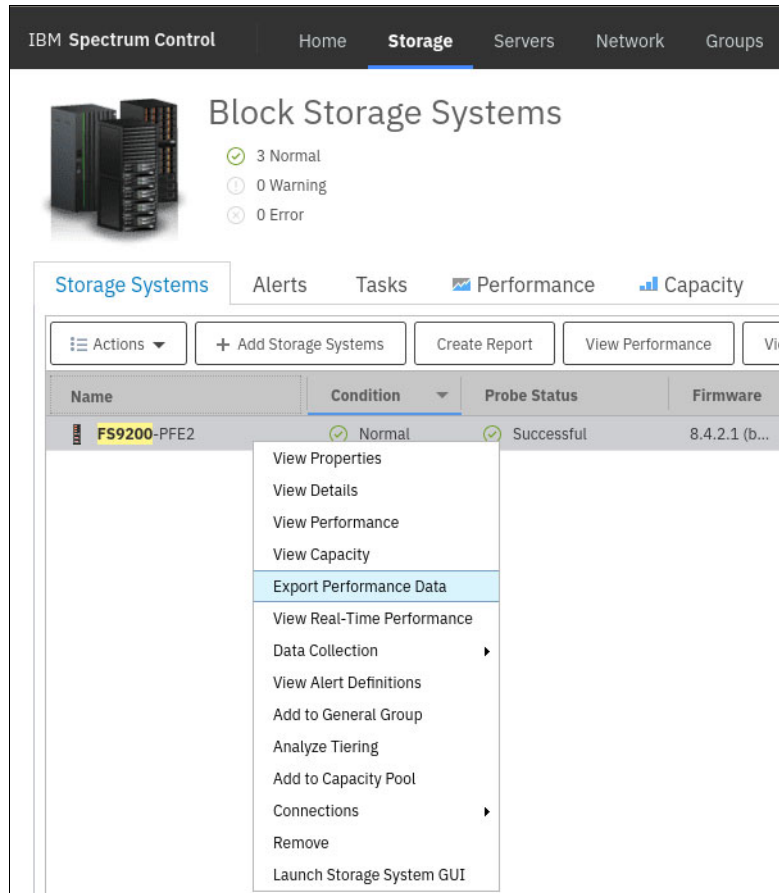

Figure 9-82 IBM Spectrum Control: Export Performance Data
2. Right-click the storage resource, and then click **Export Performance Data** (see Figure 9-82 on page 630).